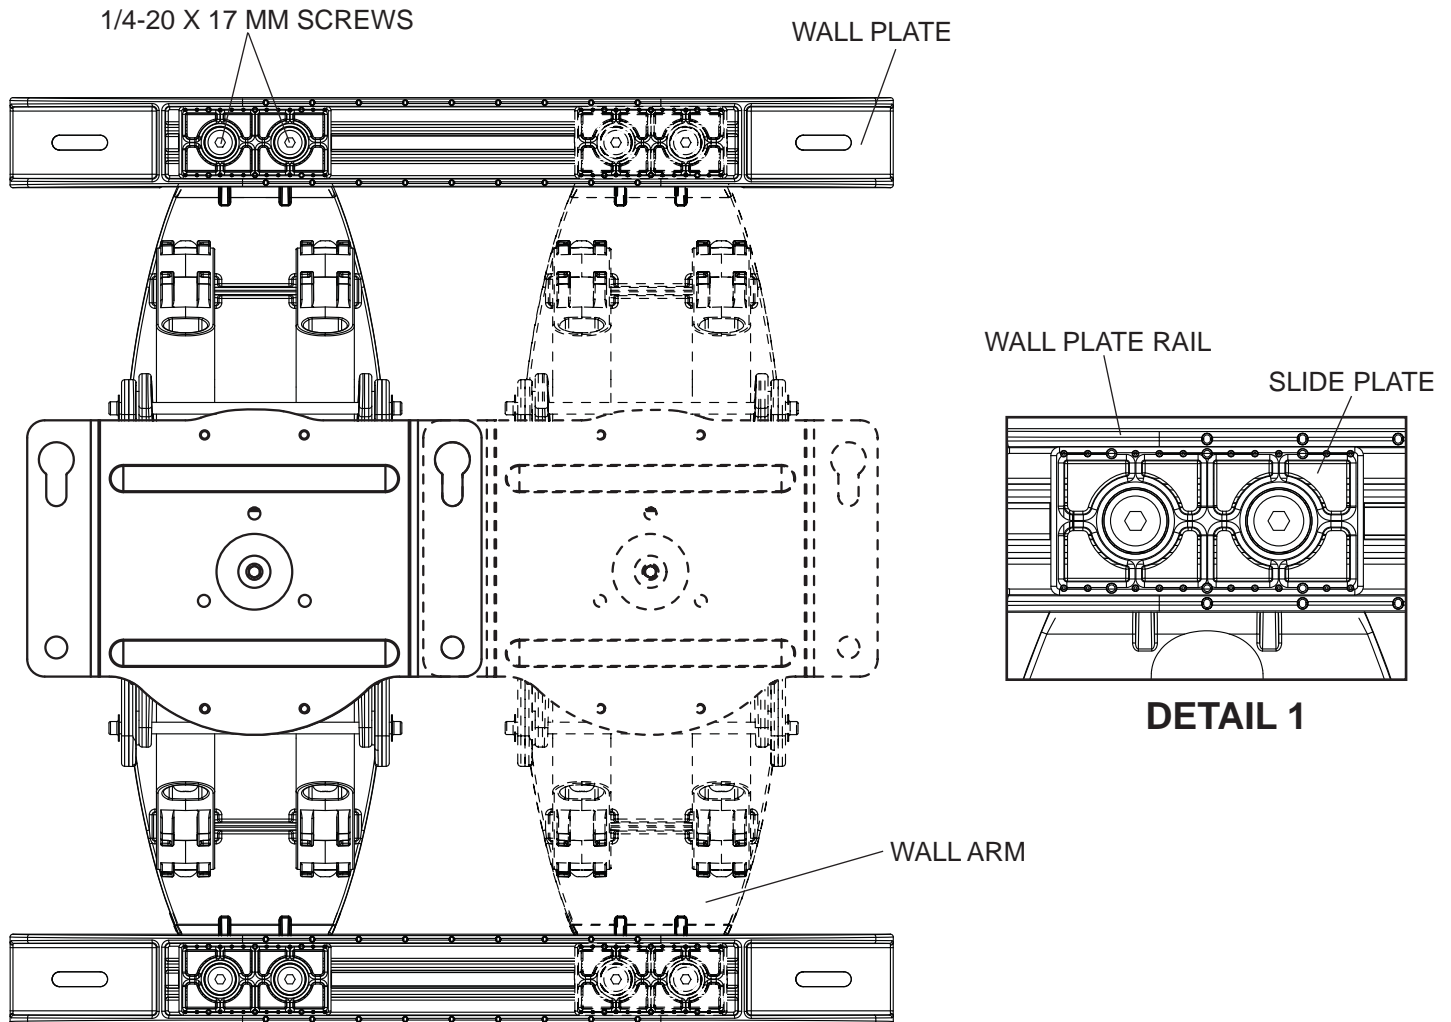

fig. 1.1
Measure the distance from the center of wall arm (A) to desired display center. Loosen four 1/4-20 x 17 mm screws using 5 mm allen wrench (I). Slide wall arm assembly 4-1/2" to the left or right as shown in figure 1.1. **NOTE:** Align bevels (dots) of slide plate with bevels (dots) of wall plate rails as shown in detail 1 then retighten 1/4-20 x 17 mm screws.